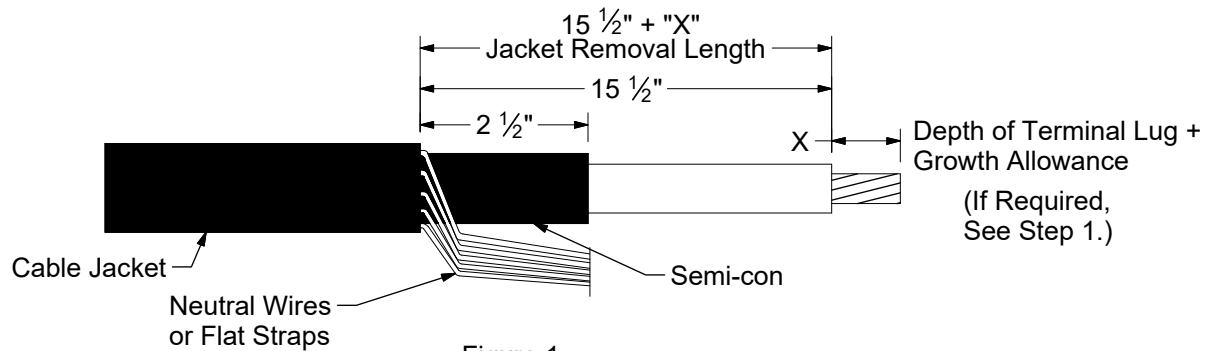

Figure 1
1. Train cable into position and cut to required length. Strip the cable to the dimensions shown in Figure 1. Check the lug being used to determine insert depth "X". Provide an additional 1/4" of exposed conductor on 1/0 - 350 kcmil aluminum cables and an additional 3/4" of exposed conductor on 750 kcmil cables. This will accommodate growth during crimping of aluminum lugs. If a shearhead bolt lug is used, additional exposed conductor is not required.